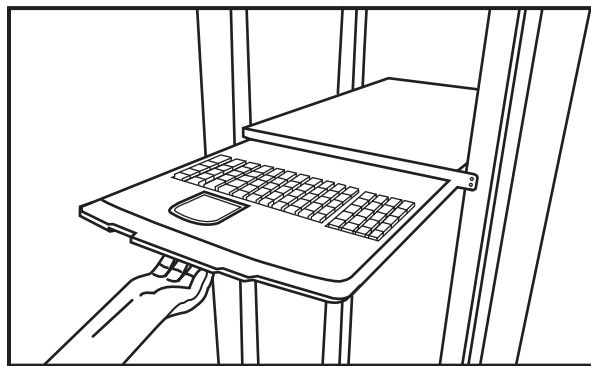

Figure 4-10. Pulling out the keyboard/touch pad and LCD monitor.
3. Then put the screws aside and pull out the keyboard/touch pad and LCD monitor individually. See Figure 4-10.